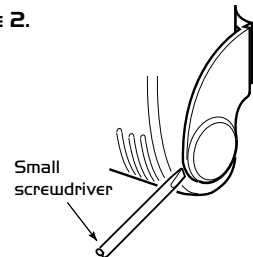

Figure 3.
c) Fix the backplate to the wall. (see Figure 3).